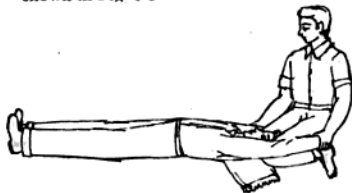

Fig. 1.3 Inspiration
Second Method This method is adopted only when a victim's body has some burns on the chest or anywhere on the front side of the body. The patient must be laid on the floor as shown in Fig. 1.3 with a pillow or rolled coat under his shoulder. Then the following procedure should be followed.
1. The operator should kneel in the position shown in Fig. 1.3.